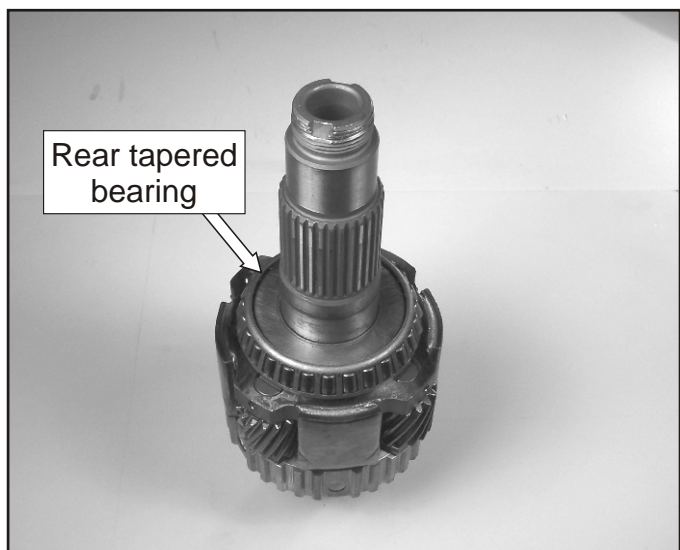

Figure 163
- 108. Inspect the rear tapered bearing as shown in Figure 163 and replace as necessary. *Note: To remove the bearing assy., remove the cage and individual rollers. Remove the race with a two jaw bearing puller. Press a new bearing onto the planetary shaft.*